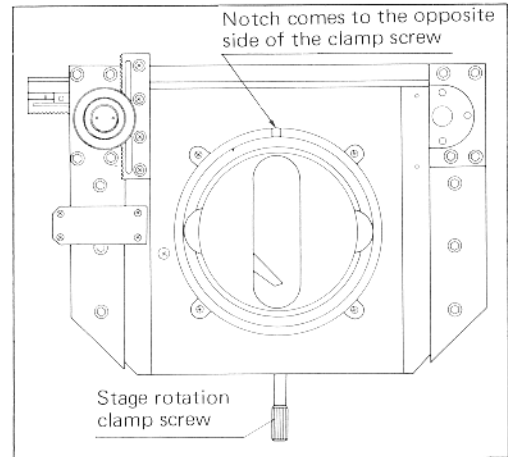

Fig. 6
- 3) Turn the circular dovetail on the underside of the stage to a position where the notch on the dovetail faces the opposite side of the stage rotation clamp screw, as shown in Fig. 6. Tighten the clamp screw firmly.